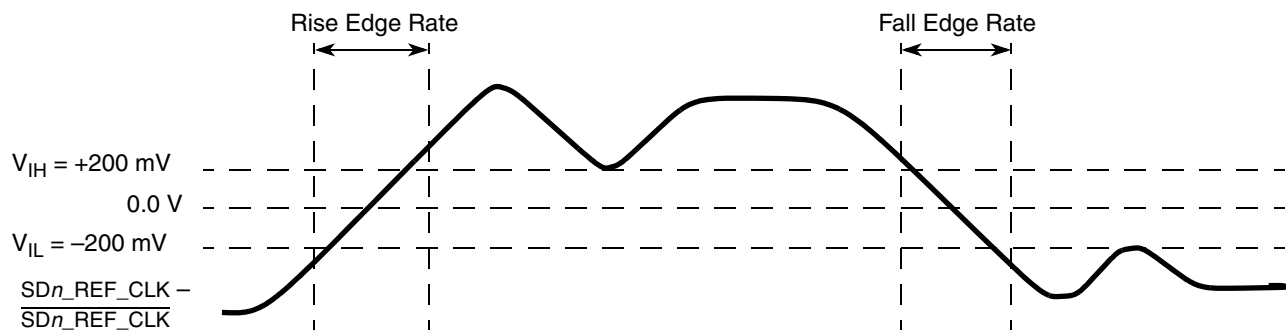

Figure 66. Differential Measurement Points for Rise and Fall Time
- Measured from -200 mV to +200 mV on the differential waveform (derived from SDn_REF_CLK minus $\overline{\text{SDn\_REF\_CLK}}$). The signal must be monotonic through the measurement region for rise and fall time. The 400 mV measurement window is centered on the differential zero crossing. See Figure 66.